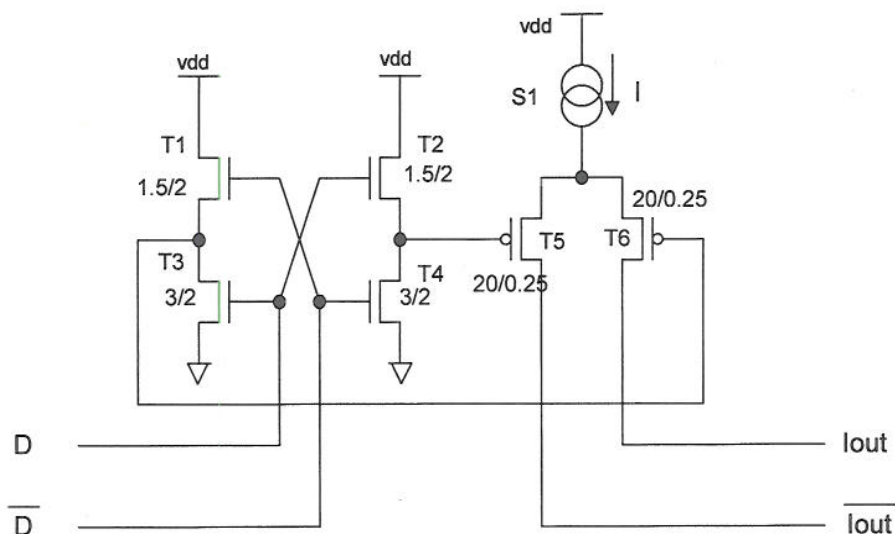

Figure 5.1
5. Figure 5.1 shows part of the driver and switching circuit of a digital to analogue converter. Transistors T1 to T4 form the differential driver for the current steering switches T5 and T6. The sizes of the transistors are: T1 and T2, 1.5μ (W) x 2.0μ (L); T3 and T4, 3.0μ x 2.0μ ; T5 and T6, 20.0μ x 0.25μ . The outputs I_{out} and $\overline{I_{out}}$ are expected to be connected to external resistors. The inputs D and \overline{D} are complementary signals.